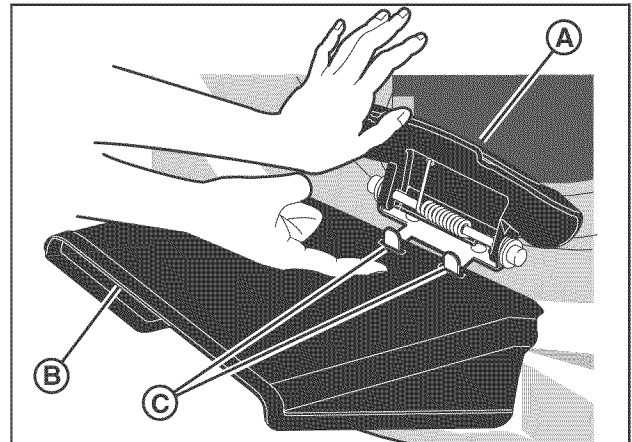
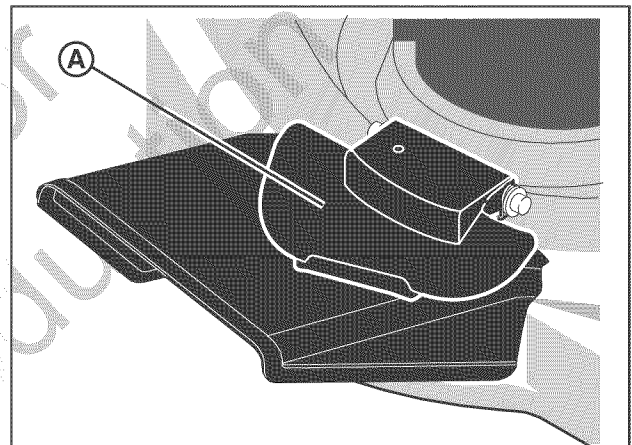

Figure 10: Installing the side discharge deflector
Figure 11: Releasing the mulcher cover
1. Raise the mulcher cover (A, Figure 10).
2. Attach the side deflector (B). Make sure the locking tabs (C) go through the slots in the side deflector.
3. Lower the mulcher cover (A, Figure 11).